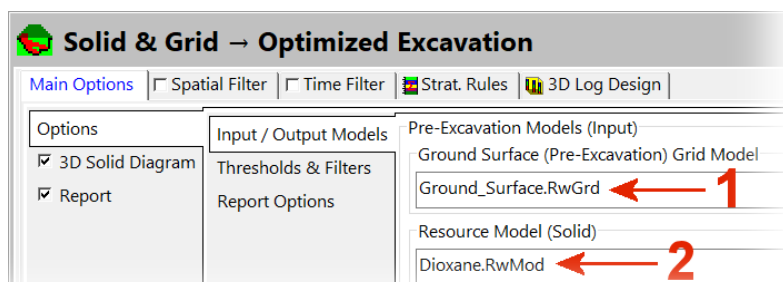

Figure 93
- Enter the names within the *Pre-Excavation Models* grouping (Figure 93) for the;